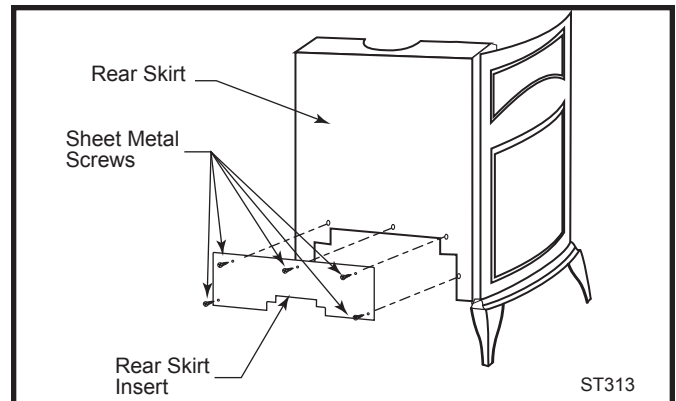
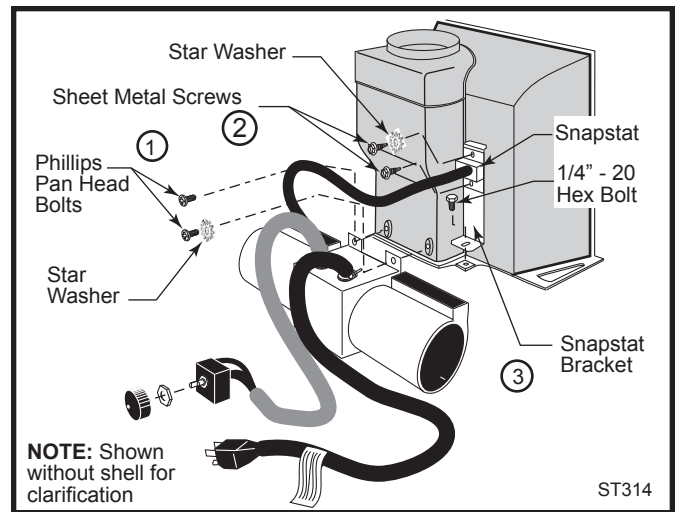

Fig. 15 Remove rear skirt insert.
Fig. 16 Attach the fan assembly and the snapstat.
- Remove the rear skirt insert panel at the bottom of the Rear Skirt (Fig. 15) and fasten the blower assembly to the firebox back with the two Phillips pan-head bolts originally installed in the firebox back. ('1', Fig. 16)
- Attach the snapstat assembly to the snapstat bracket with two sheet-metal screws. ('2', Fig. 16) Attach the snapstat bracket to the stove with a hex-head bolt passing through the bracket and into the stove base. ('3', Fig. 16)